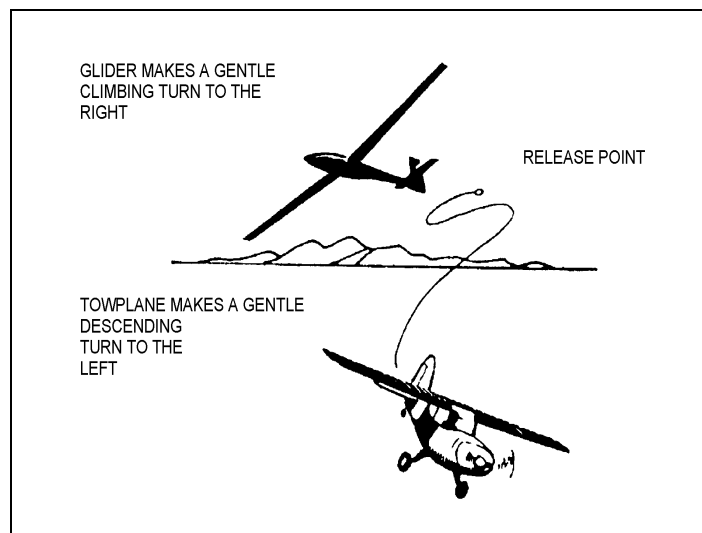

Figure 2-4-10 Separation Procedure
- c. At release, the glider pilot shall pull the release knob, hold it open momentarily (approximately 1 to 2 seconds), repeat the procedure, visually confirm separation from the tow rope, and then execute a gentle climbing turn to the right (Figure 2-4-10).